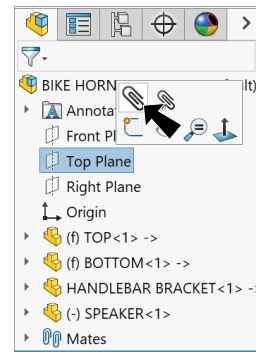

Fig. 4
Step 1. Click **Top Plane**  in the Feature Manager and click **Mate**  on the context toolbar, **Fig. 4**.